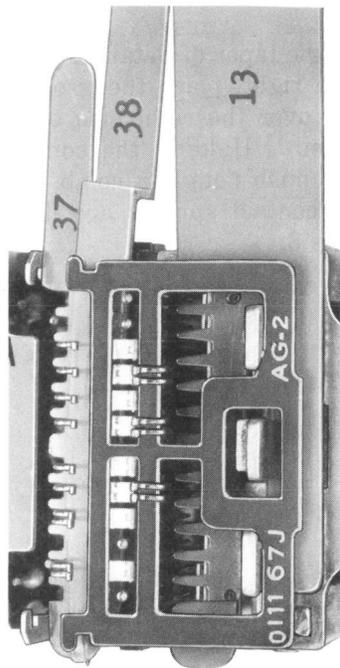

Fig. 9—Detail 13 Comb in Place With Detail 37 Comb and Detail 38 Comb Lifter
3.15 On the top right side of the relay, insert detail 13 comb behind the card with the teeth of the comb facing to the left and the slot straddling the armature as shown in Fig. 9. The stop on the comb shall come to rest on the top edge of the armature leg so that the movable springs align in pairs between teeth of the comb.